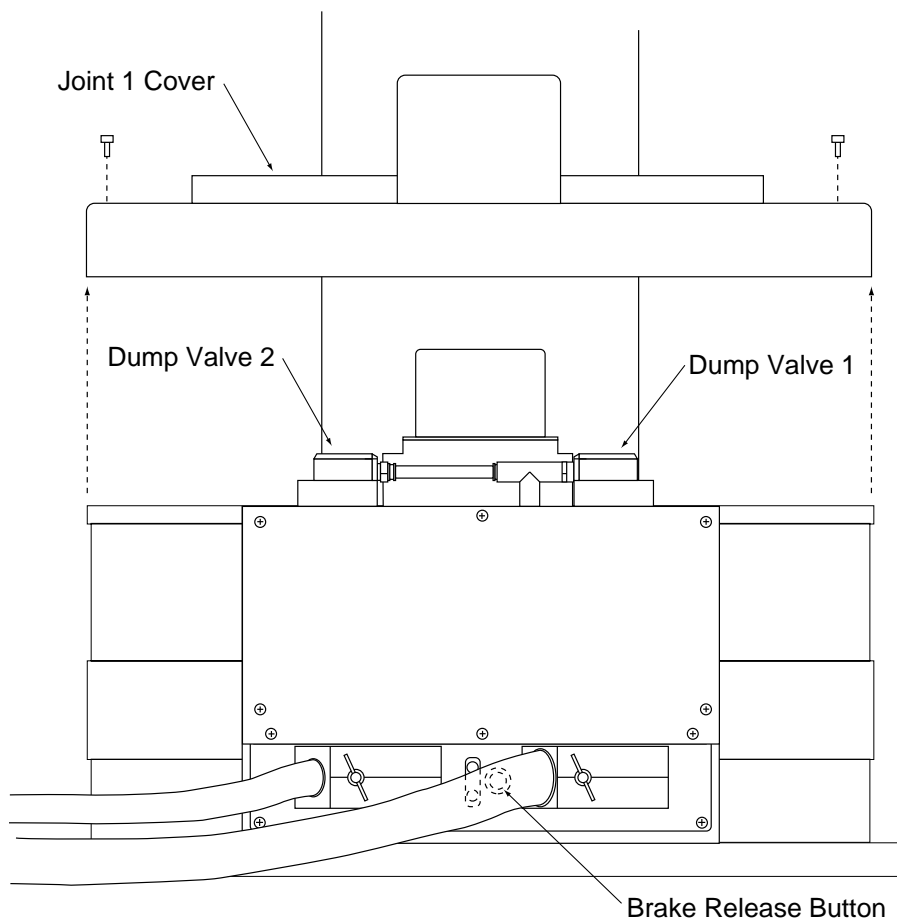

Figure C-6. Testing the AdeptThree-MV Dump Valves
5. Raise the Joint 1 cover and secure it to allow access to the dump valves, see Figure C-6.